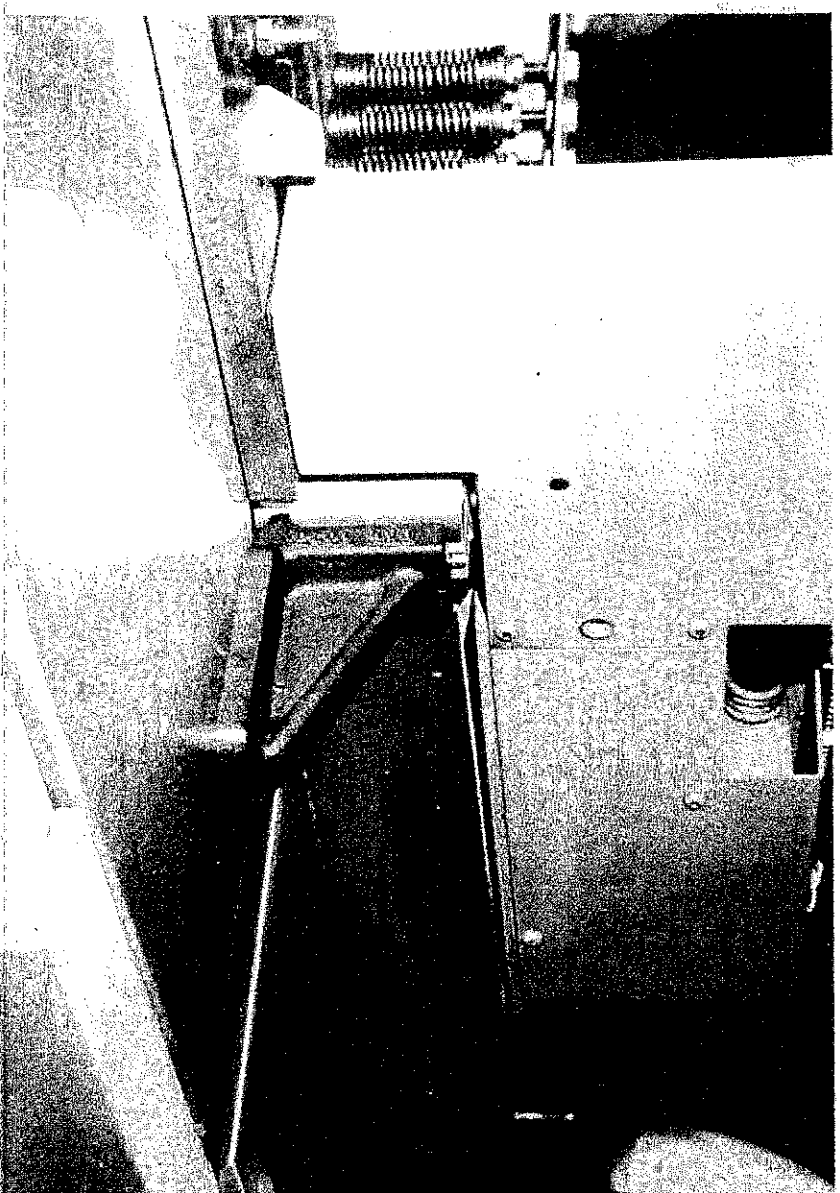

FIG. 37
- f) Place setting device over knife FIG.37. Press setting device firmly against planing table and move setting device until feet locate on cutterblock. Knife is now correctly set at 1mm cutter projection.